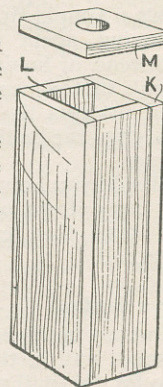
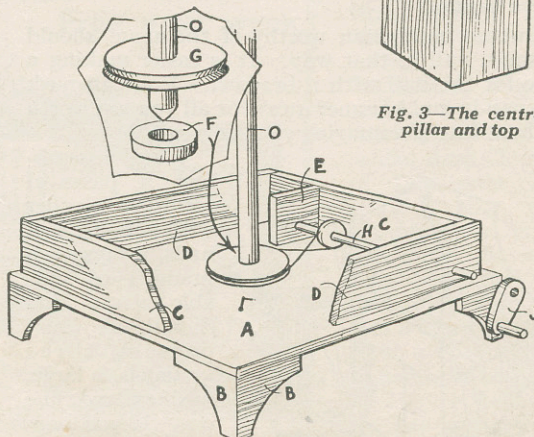

Fig. 3—The centre pillar and top
Fig. 1—Parts of base and mechanism
The enlarged diagram at the top of Fig. 1 shows some of the parts before being fixed. Take care in fixing the grooved wheels to their respective spindles that they are in alignment, that is, the larger wheel must be fixed at the same level as the spindle of the small wheel otherwise when the belt is put on and the turning motion commenced the vertical spindle will be apt to work out of its socket (F).
roundabout, four oblong pieces of  $\frac{3}{16}$ in. wood will be required, and will be put together as in Fig. 3, a square top with a central hole for the upright spindle to project through being also cut and fitted.
The front part is made in one piece from wood  $\frac{3}{16}$  in. thick as indicated in Fig. 1. First cut the wood 11 ins. long by  $6\frac{1}{2}$  ins. wide, and divide the surface for a distance of 7 ins. from the top into  $\frac{1}{2}$  in. squares. The shape of the moon and owl is now drawn from Fig. 1, and carefully cut out with a fretsaw.
Next cut a piece of wood  $\frac{3}{16}$  in. thick by 7 ins. long by  $6\frac{1}{2}$  ins. wide, mark off into  $\frac{1}{2}$  in. squares, draw the figure of the moon and then cut out with the fretsaw. This piece is the same as that indicated in Fig. 1, only the bottom part and the owl are not required.
Fig. 1—How to mark out the front contains the electric light equipment (see Fig. 3). The back is made in wood  $\frac{3}{16}$  in. thick and is cut exactly as in the front (Fig. 1), the owl being left out.
and is done in the following manner. The flash lamp battery is indicated by B Fig. 3, and this is fixed as shown by means of